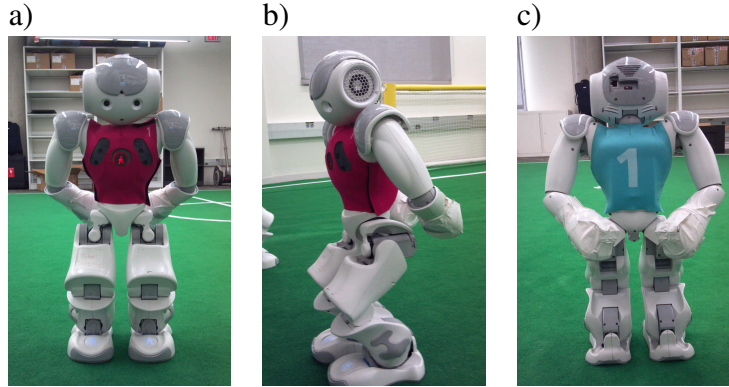

Figure 10: Team markers. a) Front view. b) Side view. c) Back view.
Robots use coloured jersey shirts as team markers in the “home” and “away” colours of the hosting arena team. Each jersey shirt has a player number (1-6) printed on it. The use of player number 1 is disallowed in the challenges of the 2021 competition. The team markers are worn as shown in Figure 10.
- Jerseys should be the tank top style used at RoboCup 2013/2014 and should cover approximately the same areas of the robot as shown in Figure 10. The torso LED must be clearly visible. Jerseys may include the sonar panel used in the 2013/2014 jerseys, although this is not required.